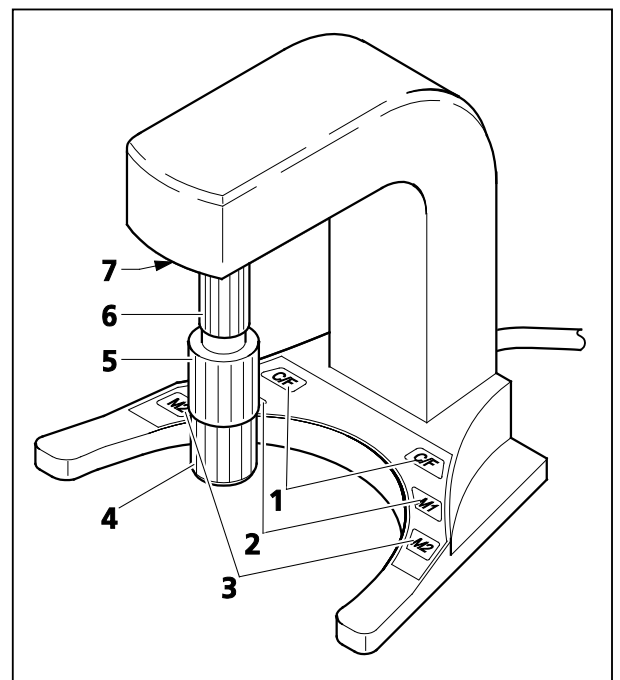

Fig. 11 Control elements on the mobile coaxial drive
- Upper drive knob: Y adjustment (Fig. 11/5)
- Lower drive knob: X adjustment (Fig. 11/4)
- The horizontal position of the drive axis (Fig. 11/6) can be individually selected: To do this, loosen the two screws on the left underside of the retaining bracket (Fig. 11/7) and push the drive forwards or backwards. Tighten the screws again.
Button C/F (positioned left and right, Fig. 11/1)
Button M1 or M2 (positioned left and right, Fig. 11/2 or 3)